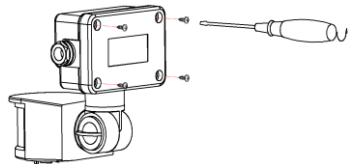

Figure1
- Loosen the screw on the bottom and unload the bottom (refer to figure 1).